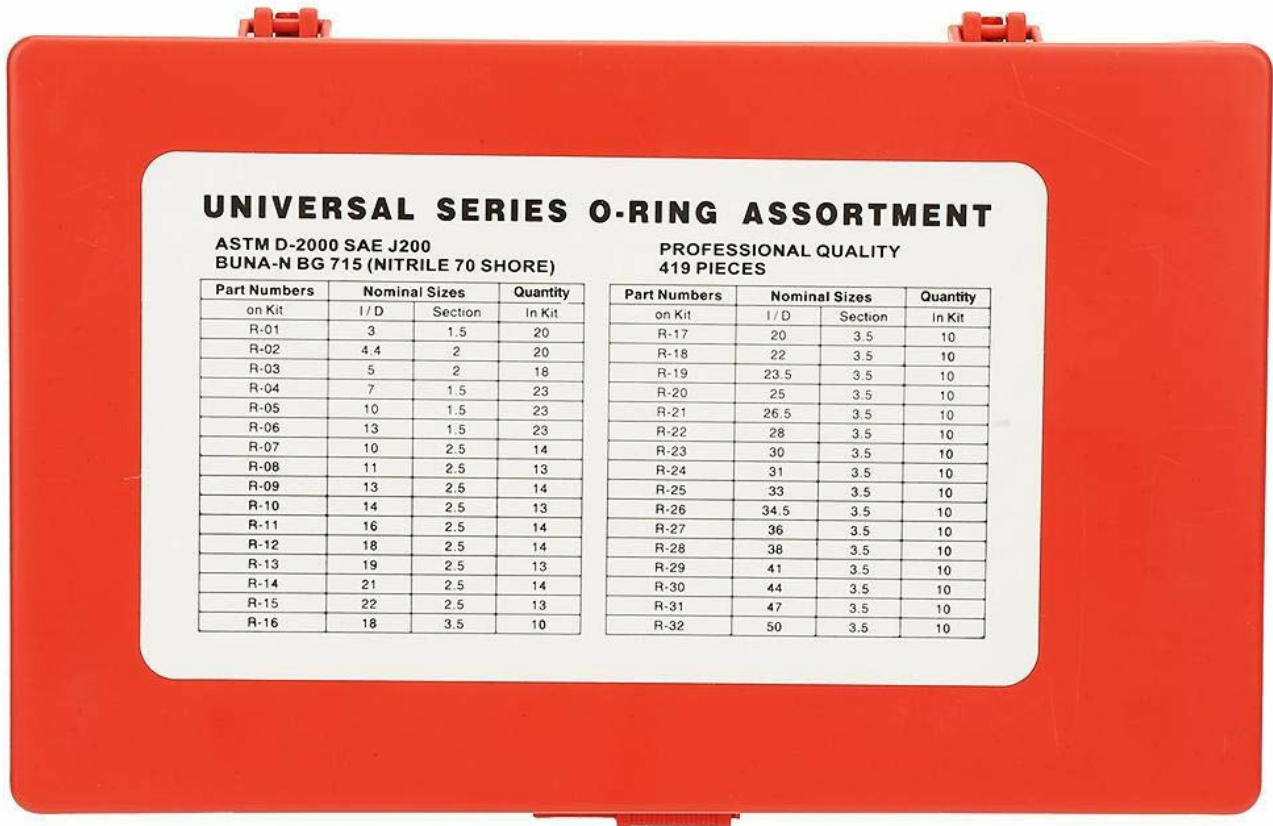

Figure 3.1: The lid of the O-Ring kit, displaying the comprehensive size chart for quick reference and identification of O-ring dimensions and quantities.
2. **Familiarization:** Take a moment to familiarize yourself with the various sizes and their corresponding labels. The lid of the case features a detailed chart (refer to Figure 3.1) that lists the part numbers, nominal sizes (inner diameter and thickness), and quantities for each O-ring type.